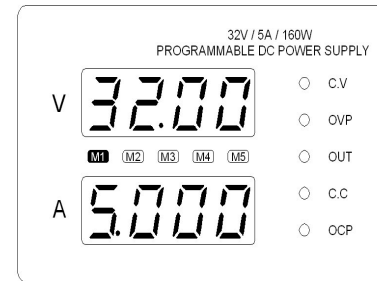
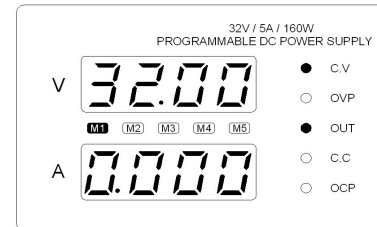

FIG.6 After storage status
FIG.7 Memory output
- (2). Press the corresponding memory key output parameters, storage time of M1, M1 pressing keys corresponding to the M1 light-emitting diode light, see FIG.6
- (3). Other in each group stored in the default method and the same M1;
- (4). Out has been stored at the default, press the M1 key to display the stored voltage, current, and then press the shutdown button output OUTPUT, can be stored in the output voltage, Current, see FIG.7